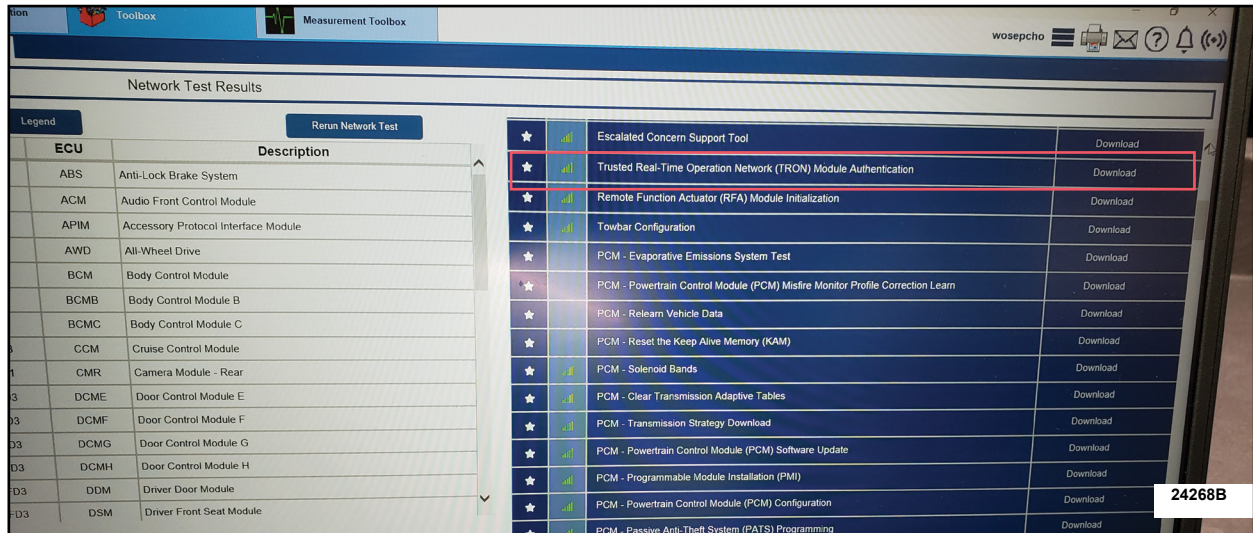

FIGURE 1
**NOTE:** Available modules are shown on the left hand (LH) side of the screen and available procedures are listed on the right hand (RH) side of the screen. Modules that are communicating are highlighted in green.
23. From the list on the RH side of the screen, download and select the Trusted Real-Time Operation Network (TRON) application. See Figure 1.